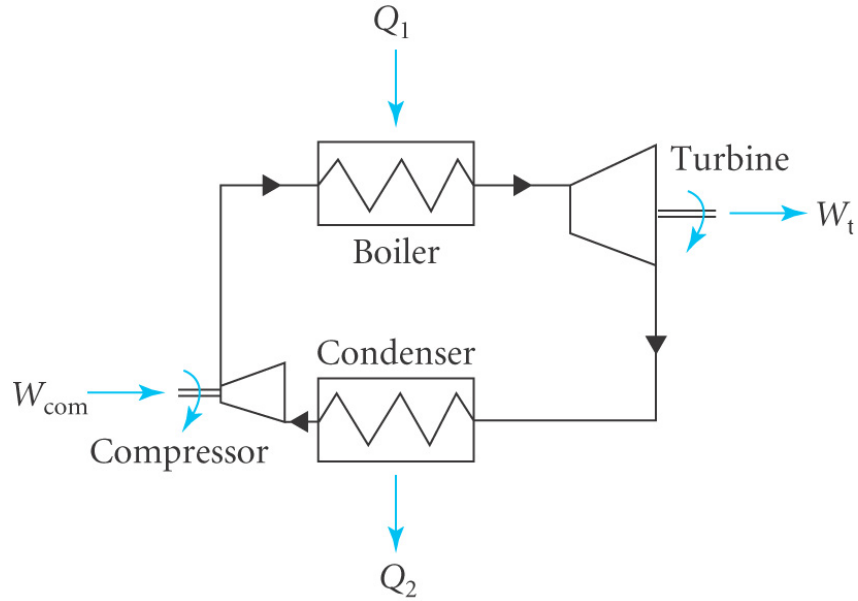

Figure 2: Cycles and Power Plants
- The heat is used to boil water. Steam runs turbines. The rotation of turbines runs generators which produce electricity (see Fig. 2). We will come back to power stations in relation to thermodynamics in section 3.